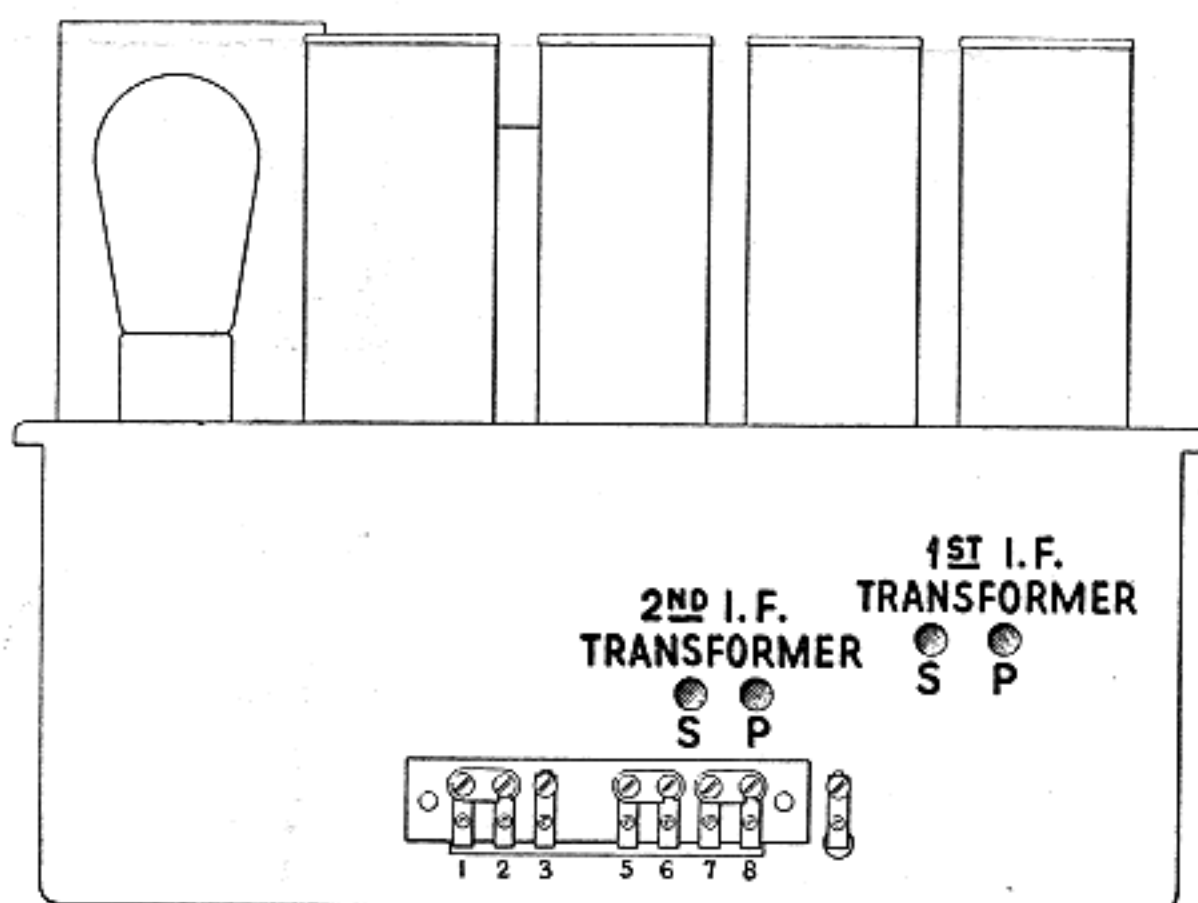

Figure 7—Location of I. F. Tuning Capacitors
- (e) Refer to Figure 7. Adjust the secondary and primary of the second and then the first I. F. transformer until a maximum deflection is obtained in the output meter. Go through these adjustments a second time as a slight readjustment may be necessary.